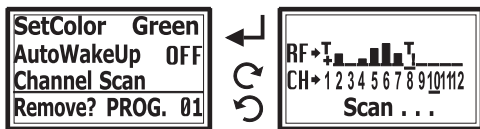

Fig. 24
(N) Channel Scan function, Fig. 24:
- (1) Channel Scan function works for the current group.
- (2) Press Channel Scan button to scan the environment for RF field strength to select the best available channel. Turn the knob to a new channel and press to store on the primary screen.